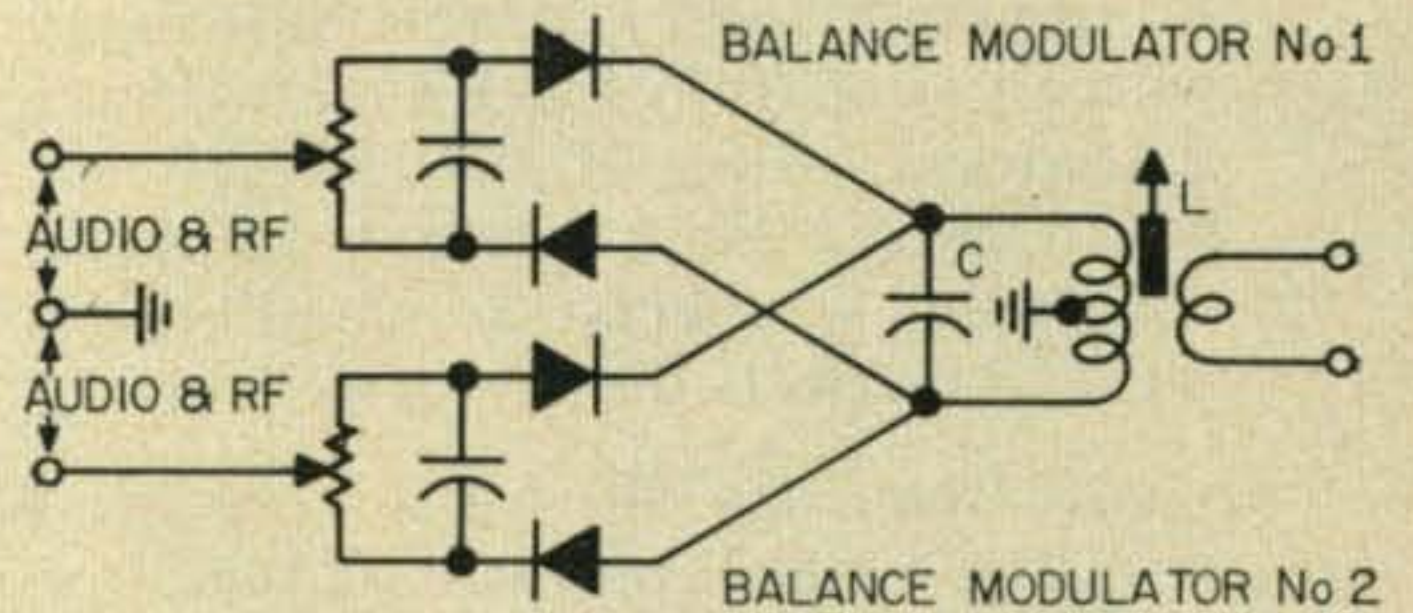

Fig. 4—Basic circuit of two balanced modulators that may be phased to eliminate the carrier and suppress one sideband when properly fed.
Figure 4 shows the basic circuit of the two balanced modulators so phased as to eliminate the carrier and suppress one sideband when fed by audio and rf signals of 90 phase difference and equal amplitudes.
2. The code is broadcast for one minute intervals and 10 times per hour (fig. 4.) Except at the beginning of each hour, it immediately follows the standard audio frequencies of 440 cps and 600 cps. The latter frequencies are given alternately as before except the duration is 2 minutes instead of 3 minutes when the code is given.
3. The code contains time of year information (UT) in seconds, minutes, hours, and day of year.